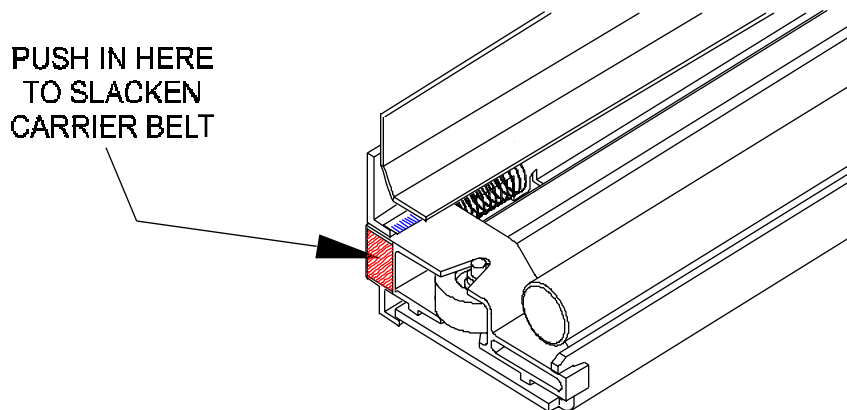

Figure 5-2. Frame Tensioner.
3. Depress the back of the Frame Tensioner (see Figure 5-2) to create slack in the Carrier Belt and slip it off of the Servo Motor pulley.
7. Move the Carrier Assembly away from the left end of the Slide Shaft. Compress the back of the Frame Tensioner and use the end of a screwdriver to remove the Carrier Belt from the Servo Motor pulley. See Figure 5-2.